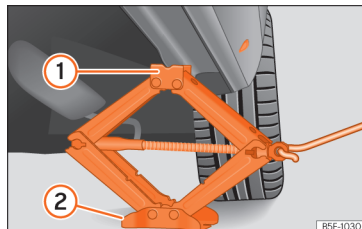

Fig. 40 Cross member: positioning the jack on the vehicle.
- Turn the jack* crank handle, located below the strut support point, to raise it until the tab ① » Fig. 40 is below the housing provided.
- Align the jack* so that tab ① "grips" onto the housing provided on the strut and the mobile base ② is resting on the ground. The base plate ② should fall vertically with respect to the support point ①.